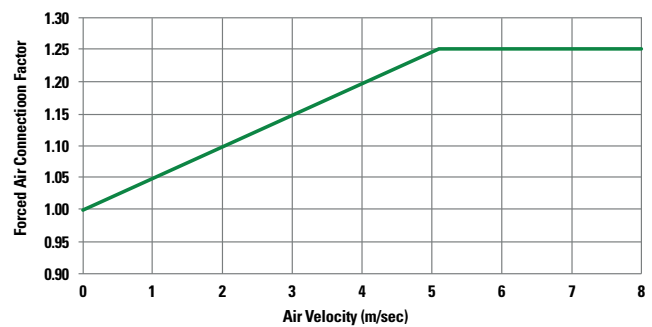

FIGURE 5. Forced cooling correction factor.
F_{FC} = Forced cooling correction factor (see **Figure 5**)
Figure 5 shows how to determine the thermal correction factor. Our high-speed fuse technical paper shows an example for determining the thermal correction factor. For any questions, contact the Littelfuse Techline at +1 (800) 832-3873.